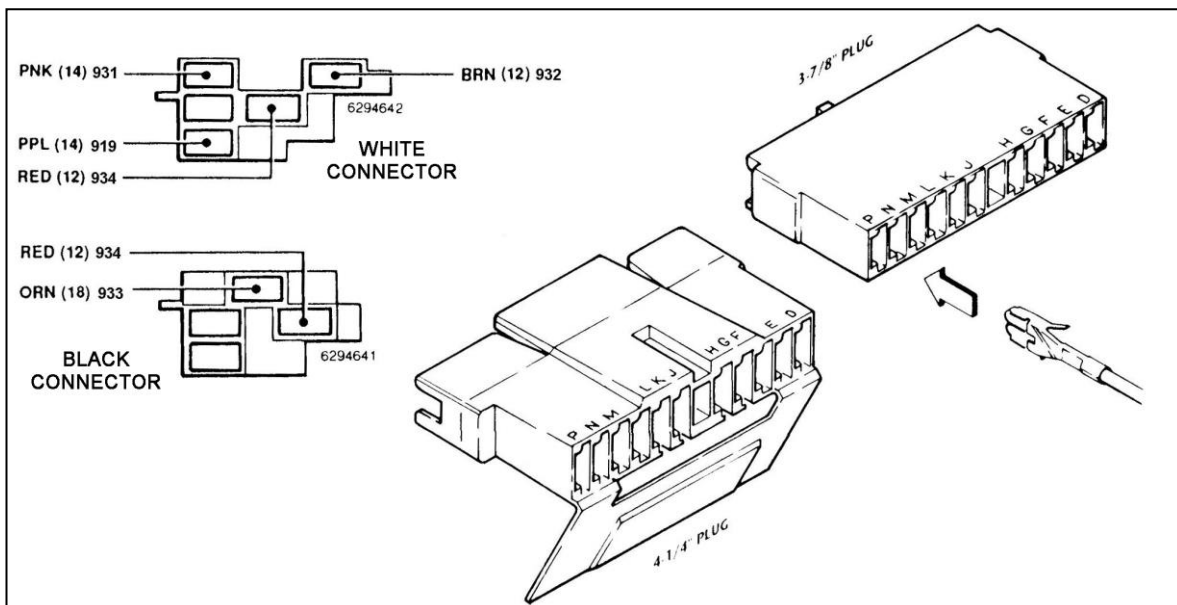

Figure 7-5 GM Turn Signal Connectors
7.4.1 There are two different plugs on most tilt columns. The difference is in the length of the male plug that is mounted ON THE COLUMN. One plug is 3-7/8" (3.875") long and the other is 4-1/4" (4.250"). This is only a difference of 3/8" (0.375"), so measure the plug carefully. The Wire Harness Kit has included two different female connectors to mate with the column-mounted plug. See **Figure 7-5** to determine which female connector is correct for your automobile.
The TURN SIGNAL SECTION wires may have already been terminated for you. If not, cut wires to length and install the terminals provided. Choose the proper plug and install the terminals according to **Table 7-1**, as shown in **Figure 7-5**. The GM wire color codes have been included for reference. **Note:** The terminals will only insert into the connector ONE WAY, as shown in **Figure 7-5**. Make certain you are inserting the wire into the CORRECT LOCATION as the terminals are difficult if not impossible to remove once inserted.
- 7.4.2** Some harness' come with the GM ignition switch connectors pre-wired. See **Table 7-1** and **Figure 7-5** for color codes, wire numbers, and wire designations for the Ignition Switch Connectors.